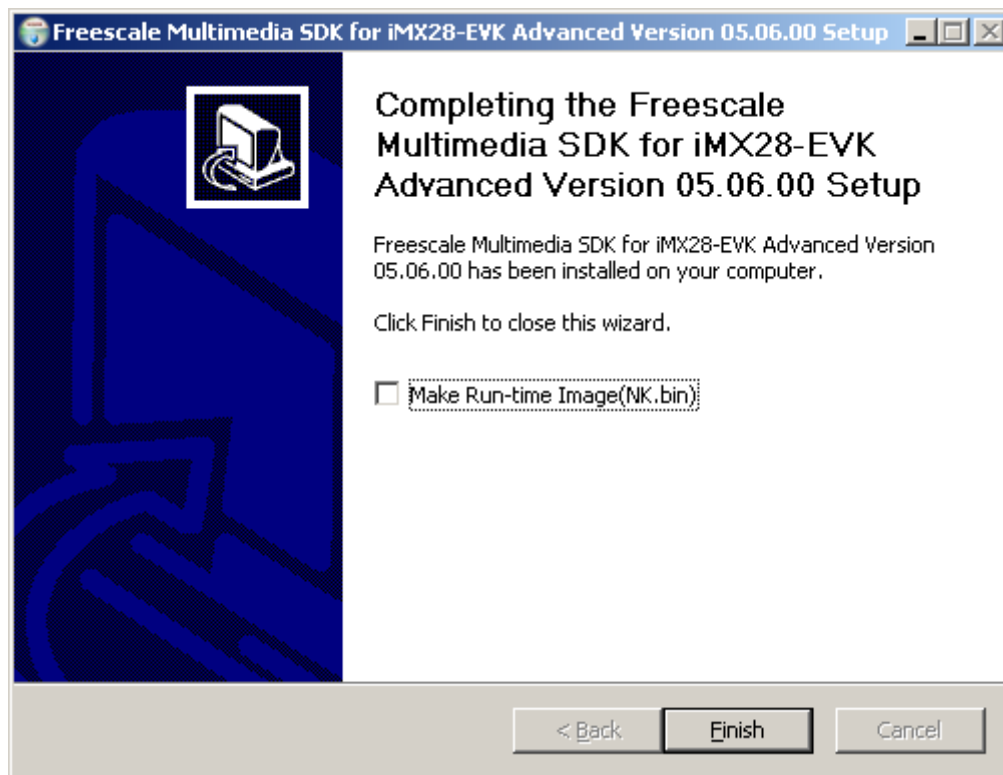

Figure 1-4 Setup Complete Screen
6. In the final installation window (Figure 1-4) you can select whether to do a clean build for the Windows CE OS Image automatically.